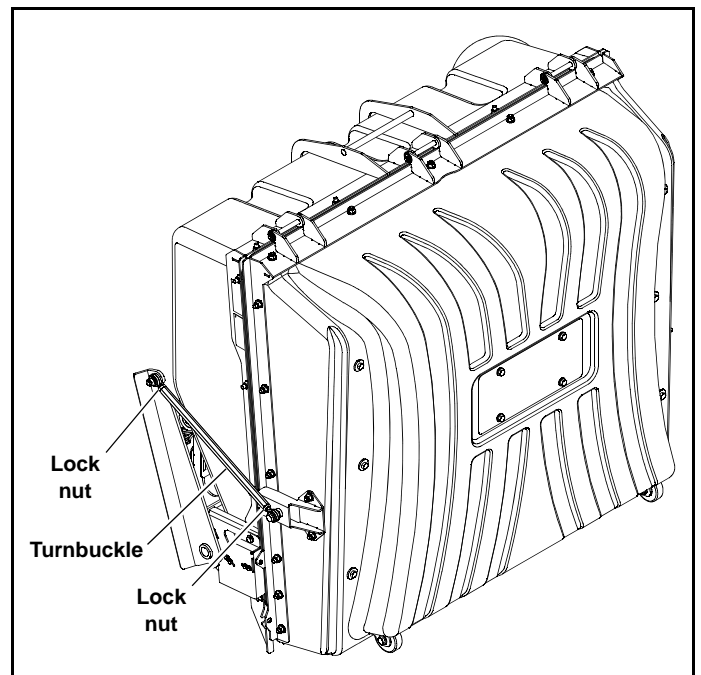

Figure 5-5
4. After the switches are correctly set, open the door and adjust the two turnbuckles by tightening them by two complete revolutions. Tighten the jam nuts on the turnbuckles. Figure 5-5